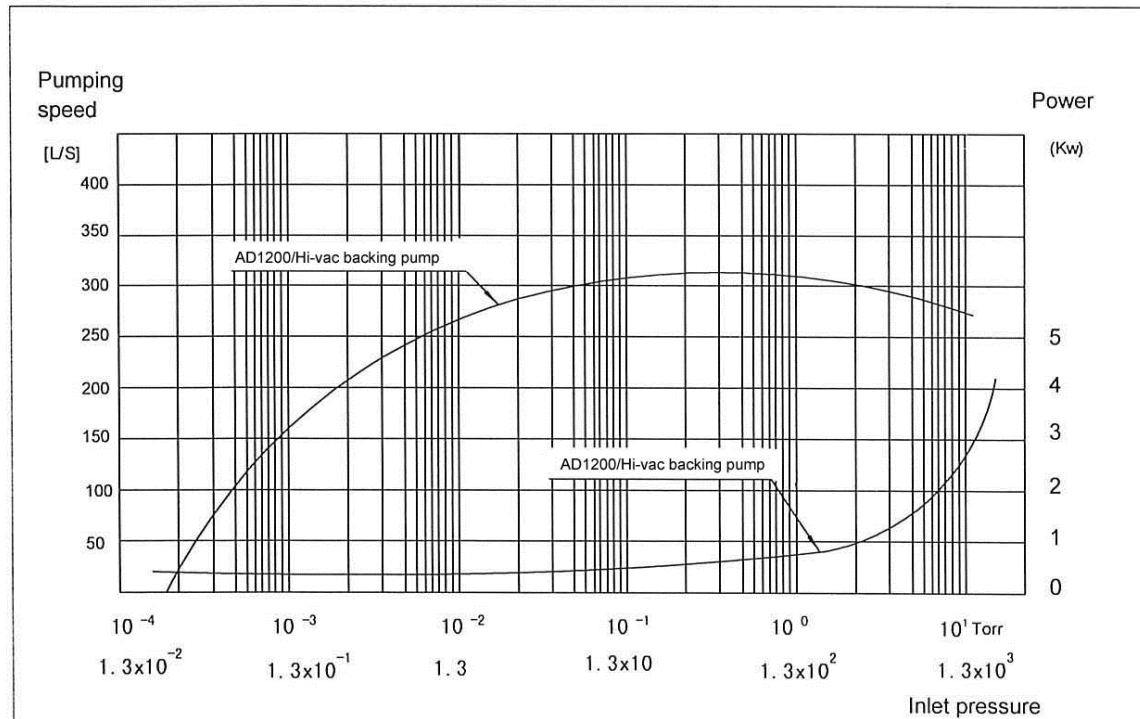

Fig. 4 Curve of pumping speed and power consumption versus inlet pressure for AD1200/ High-Vac backing pump
- Figure 4: Curve of pumping speed and power consumption versus inlet pressure for AD1200.